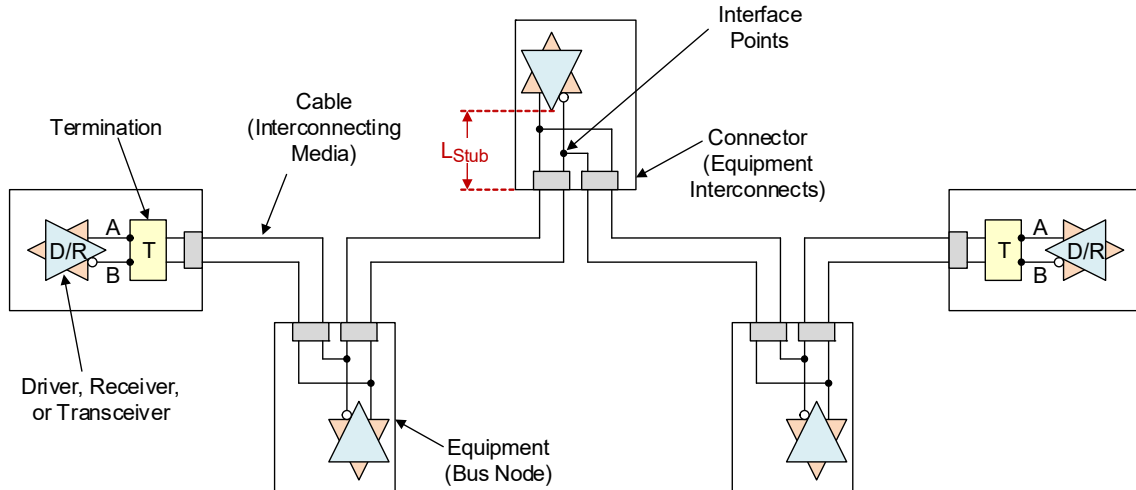

Figure 5. RS-485 Daisy-Chain Configuration Aiming for Shortest Possible Stubs
The most reliable method of routing an RS-485 network is by daisy-chaining its bus transceivers. Daisy-chaining means, running the bus cable as close as possible to an equipment (bus node), tapping off a short connection to the actual transceiver (stub), and continuing the cable run to the next bus node (Figure 5). This method requires the first and last bus node in the network to be terminated with a termination resistor (T), whose value matches the characteristic impedance of the RS-485 cable. Daisy-chaining ensures the shortest stubs, while allowing for long cable runs of several thousands of feet.